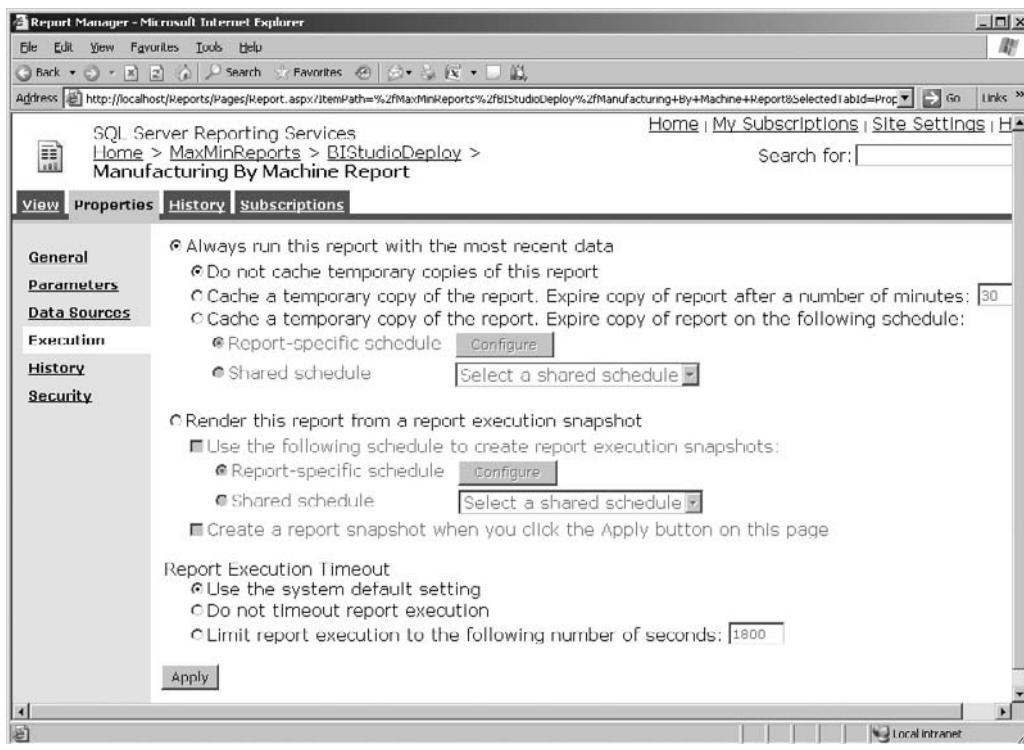

Figure 17-10 The Execution Properties page
4. Select Execution from the left side of the screen. The Execution Properties page appears, as shown in Figure 17-10.